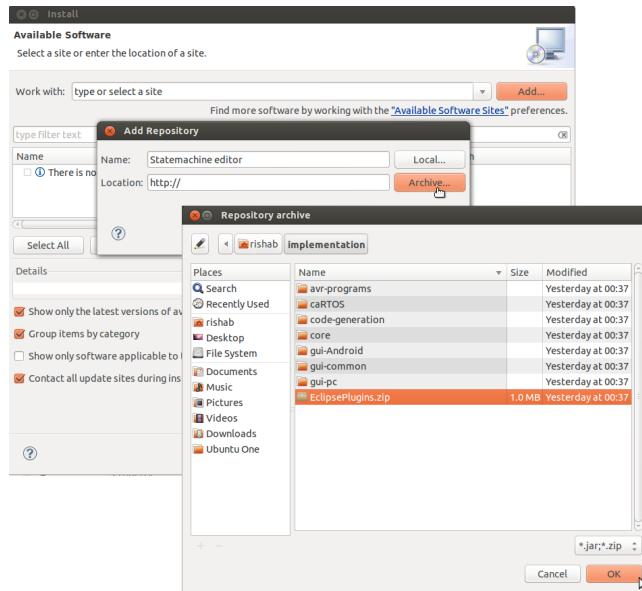

Figure A.1: Adding update site in EclipsePlugins.zip archive file
4. You can add the repository of our plugins on the Install window by (Add → Archive). A file explorer is opened, in which you can navigate to the directory containing the `EclipsePlugins.zip` archive and import it like in Figure A.1. This archive contains two UPBracing plugins for Eclipse. Select both plugins (statemachine editor and timer configuration editor). If you are sure that you only need one of them, of course, you can only install that one.